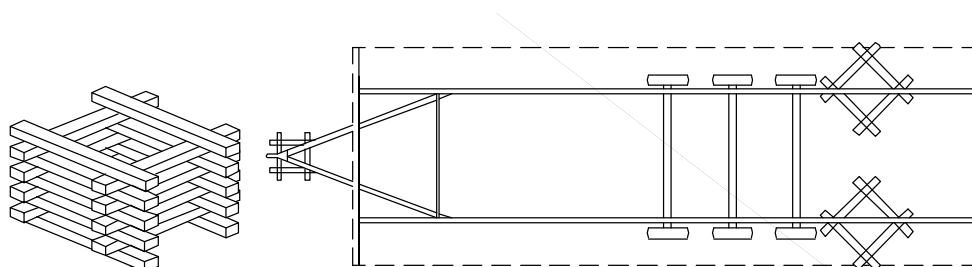

Figure 20. Stack 4" x 6" by 5' long timbers as shown to form safety timbers. Place safety timbers under home behind axle area and under hitch.
Manufactured homes weigh several tons. No one should be under the home (whether it is moving or stationary) unless proper cribbing is in place (**Figure 20**). Failure to utilize proper cribbing may result in serious injury or death.
- Make sure adequate safety cribbing (**Figure 20**) is in place whenever the home is placed on jacks.
2. **Install cribbing.** Install safety cribbing (**Figure 20**).